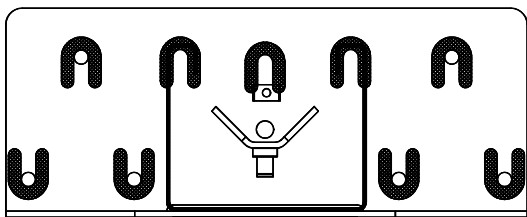

Fig 3
4. Shim both columns to plumb using the shims provided. Do not shim more than 1/2" at any given point. Use a level no less than 24" in length to plumb the columns. **IMPORTANT:** *Insure to shim under not only anchor bolts but also, cylinder and column too as shown in Fig 3.* Failure to do so may cause premature wear and/or lift to work improperly and void warranty.